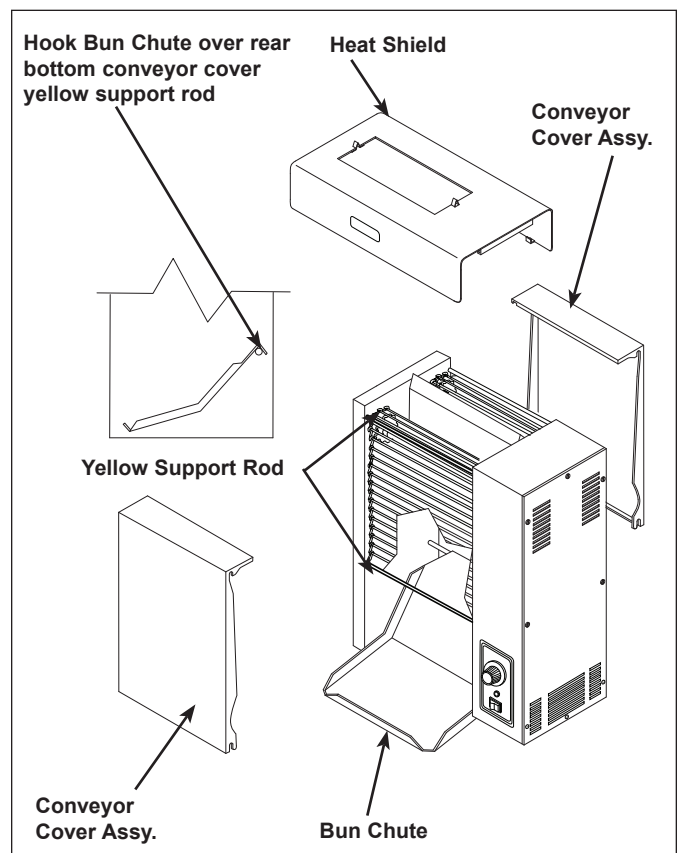

Figure 2. Installing Bun Chute
- Bun chute (Figure 2)
3. Install the Bun Chute (Figure 2).